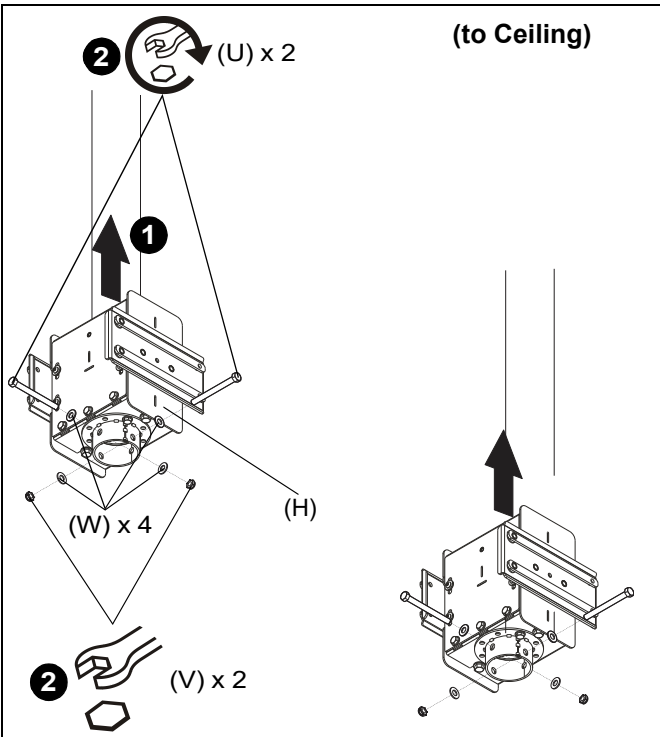
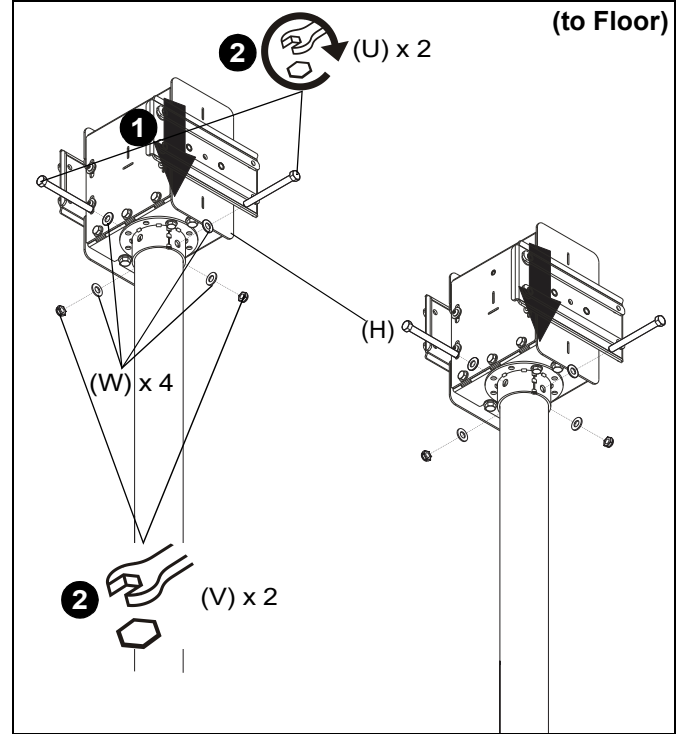

Figure 1
Figure 2
1. Slide mount assemblies (H) onto ODAC Series Floor/Ceiling Columns. (See Figure 1) or (See Figure 2)
2. Use two 3/8-16 x 4" hex head tapping bolts (U), four 3/8" washers (W) and two 3/8-16 hex nuts (V) to secure each mount assembly (H) to each column. (See Figure 1) or (See Figure 2)